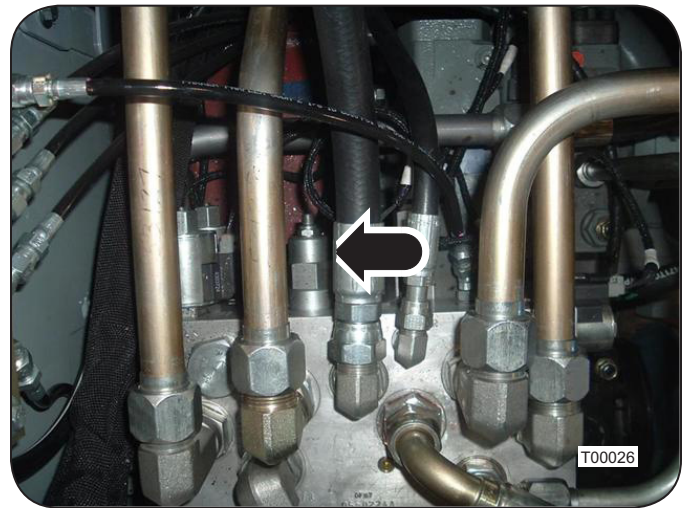

Figure 2: Charge Pressure Manifold
8. Open the rear engine guard and locate the track drive charge pressure manifold assembly. See Figure 2.
9. Locate the large charge pressure relief cartridge. See Figure 2. Use the 9/16" wrench and 5/32" allen wrench to loosen the jam nut.